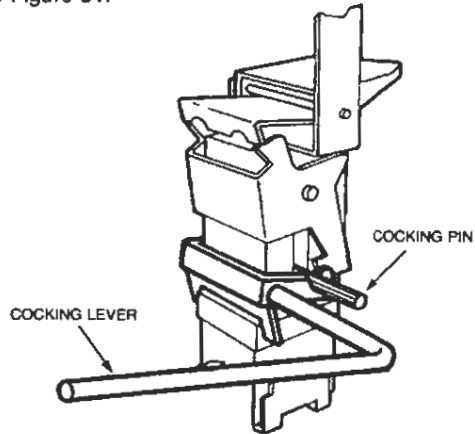

FIGURE 31
- ▶ 10. Insert cocking lever (Part No. 14995 or Part No. 435603) on left side of the release mechanism, with the movable flange resting securely against the corner of the cartridge receiver and spring housing, and with the notched lever portion engaging the cocking pin on both sides of the release mechanism. See Figure 31.